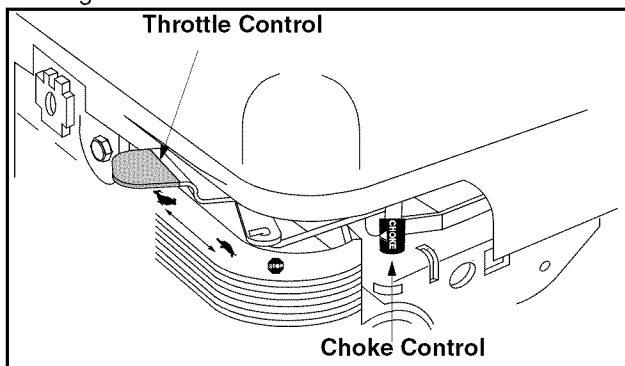

Figure 9
5. Move throttle control to START/RUN (Rabbit) position. See Figure 9.
6. Move the choke control toward the throttle control to choke the engine's carburetor. (A warm engine may not require choking.) See Figure 9.